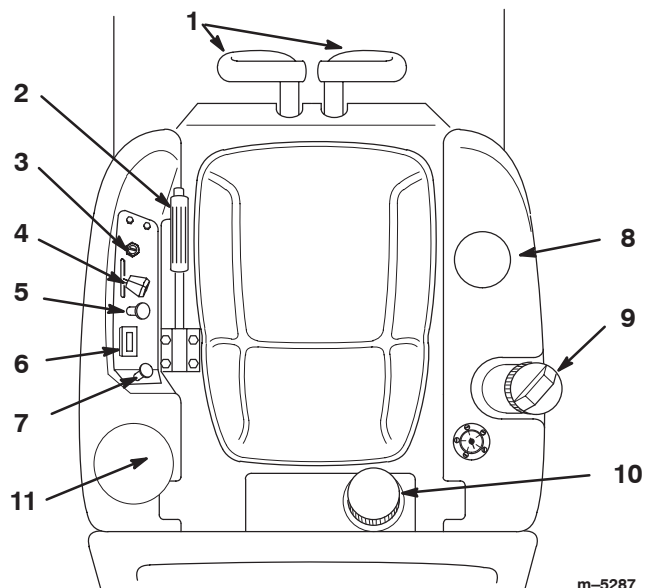

Figure 6
Become familiar with all the controls before you start the engine and operate the machine (Fig. 6).
1. Move the motion control levers to neutral (Fig. 6).